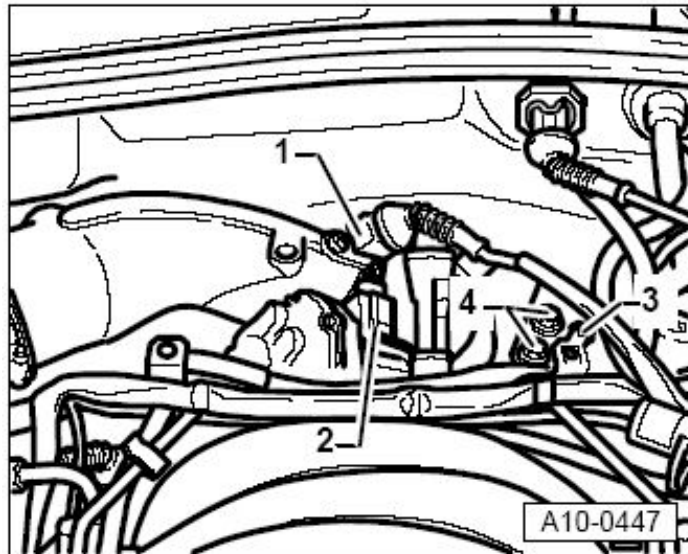

Figure 4. The connector for the intake air temperature sensor (1), connector for the throttle body (2), wiring support (3), and cruise control vacuum unit (4).
12. Unclip wiring support (Figure 4, 3).
13. Disconnect connector (Figure 4,1) for intake air temperature sensor.
15. Disconnect connector (Figure 4, 2) from throttle body.
16. Remove cruise control vacuum unit from support (Figure 4, 4).